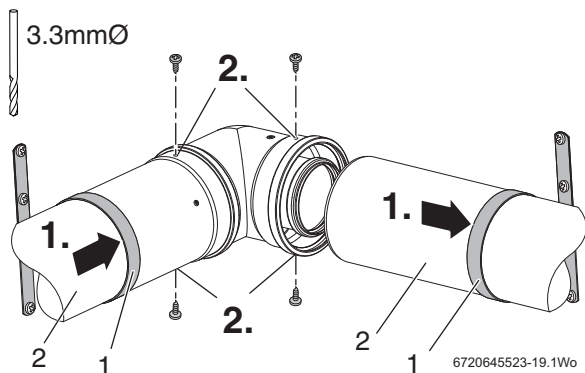

Fig. 29 Extensions employing elbows
► Referring to figure 29 and 30 slide the support clamps (1) onto the additional flue extensions (2).
1. Working from the boiler, fit the support clamps (1), to take the weight of the flue elbows and extensions (2).
2. Drill two holes with the jobber's drill bit provided (180° apart if possible) through the outer flue tube (L) on each flue joint, taking care NOT to drill the inner flue tube, and secure with screws provided.